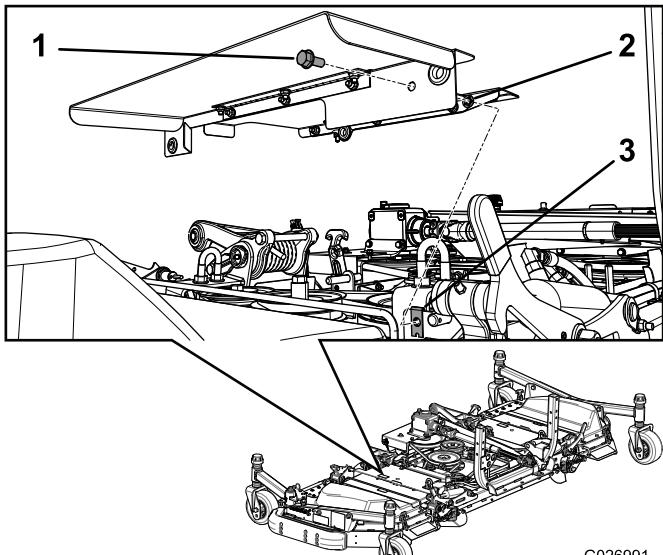

Figure 20
2. Flange nut (3)	4. Bolt (3)
5. Install a bolt and a push nut to the shield (Figure 20).
6. Install the combined covers onto the deck (Figure 20).